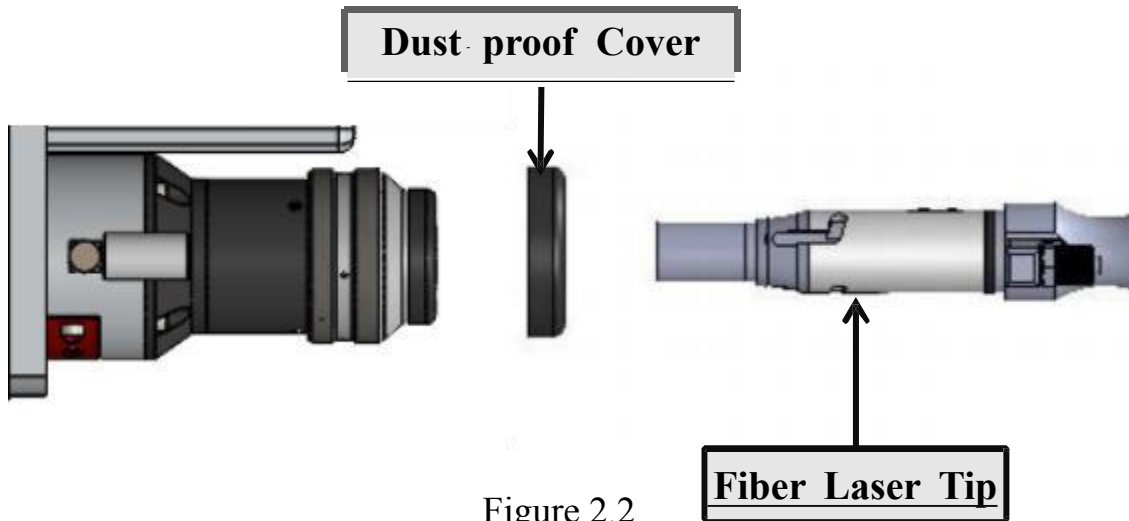

Figure 2.2
- ① Put the cutting head horizontally, remove the white cover and static sticker, and then take out the dust-proof plug and dust-proof cover, as shown in Figure 2.2:
- ② Cover the dust-proof cover which is in the white accessory box, onto the fiber laser tip, as shown in Figure 2.2: